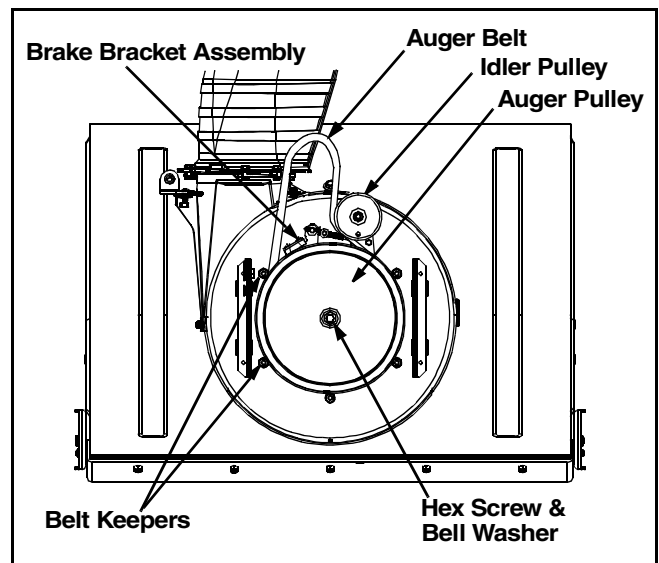

Figure 20
- Using a 1/2" wrench, remove the hex screw and bell washer from the center of the pulley on the auger housing. Lift the brake bracket assembly out of the pulley groove and remove the pulley. Be careful not to lose the key. See Figure 20.